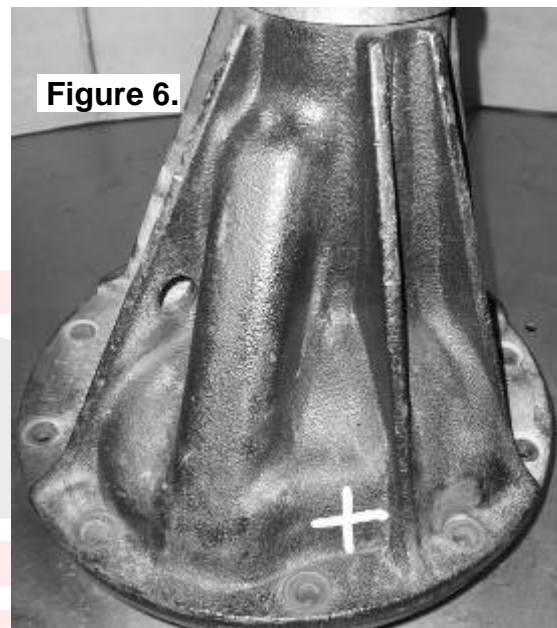

Figure 6.
- Mark a spot toward the top of the differential housing opposite the ring gear in an area well clear of the differential, the ring gear, and any other obstructions that could snag the seal housing tube. (Fig.6.)